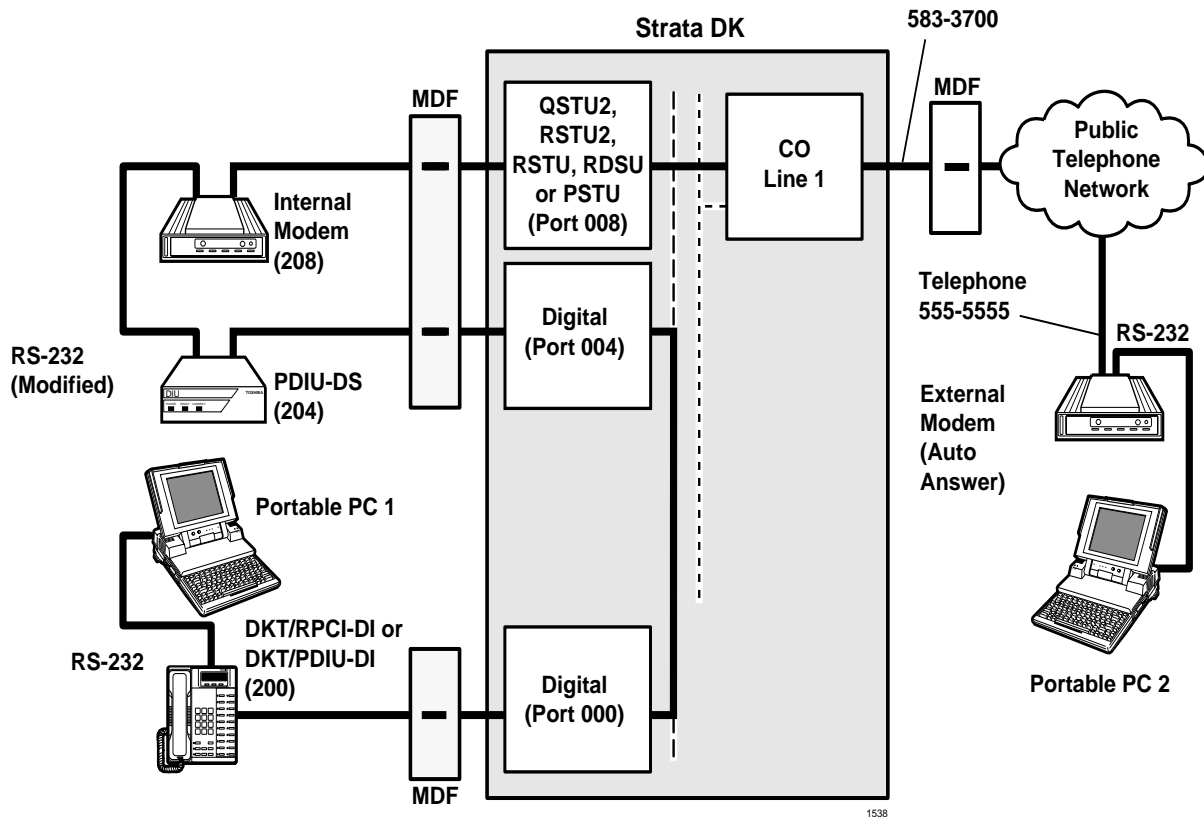

Figure 10-37 Internal PC to External PC Test Call Using AT Commands
**Note** See Figure 10-37 for additional information.
- ◆ Program 39: Port 000. **Data Call** (456), **Data Release** (454), and **Modem** (455) buttons should be provided.